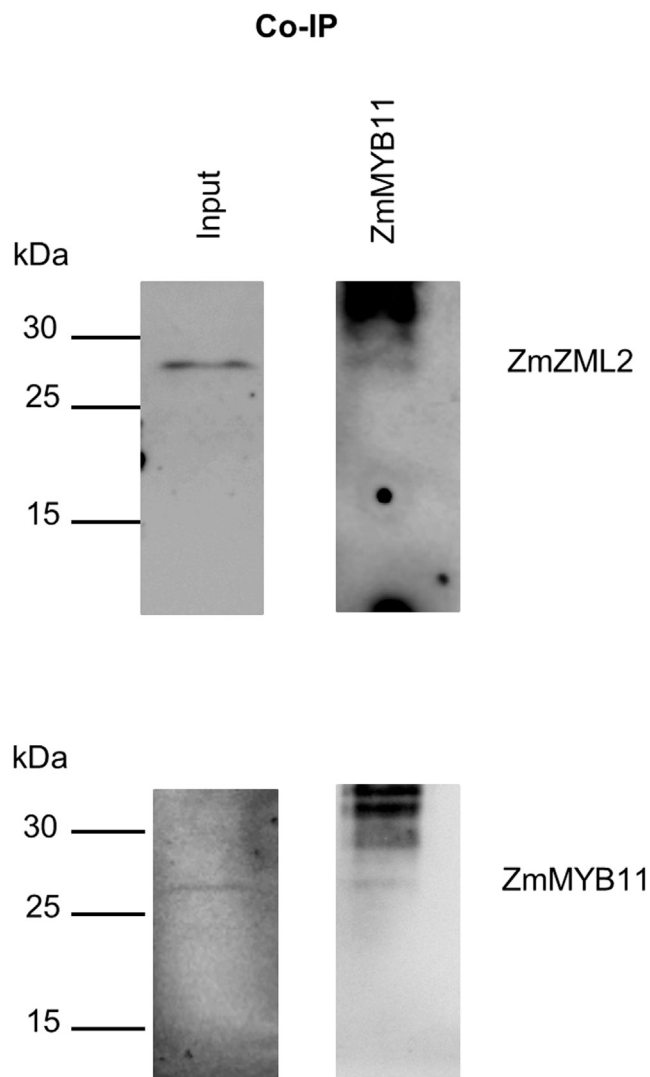

Figure 5. Co-immuno-precipitation of ZmMYB11 and ZmZML2
45. Use the first elution (35 μ L) for western blot or mass spectrometry analysis (LC-MS/MS) (Figure 5).